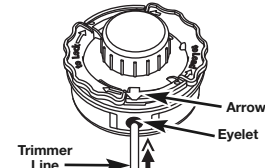

Fig. 22
1. Align the arrows on the SpeedLock™ with the eyelets on the outer spool (Fig. 22).
2. Insert a piece of precut spiral line, P/N 49UFSHLL953, into an eyelet on the outer spool (Fig. 22).
1. While holding the outer spool in place, pull the SpeedLock™ away from the outer spool and twist the SpeedLock™ counterclockwise until it stops. The arrows should align with the eyelets on the outer spool. (Fig. 22)